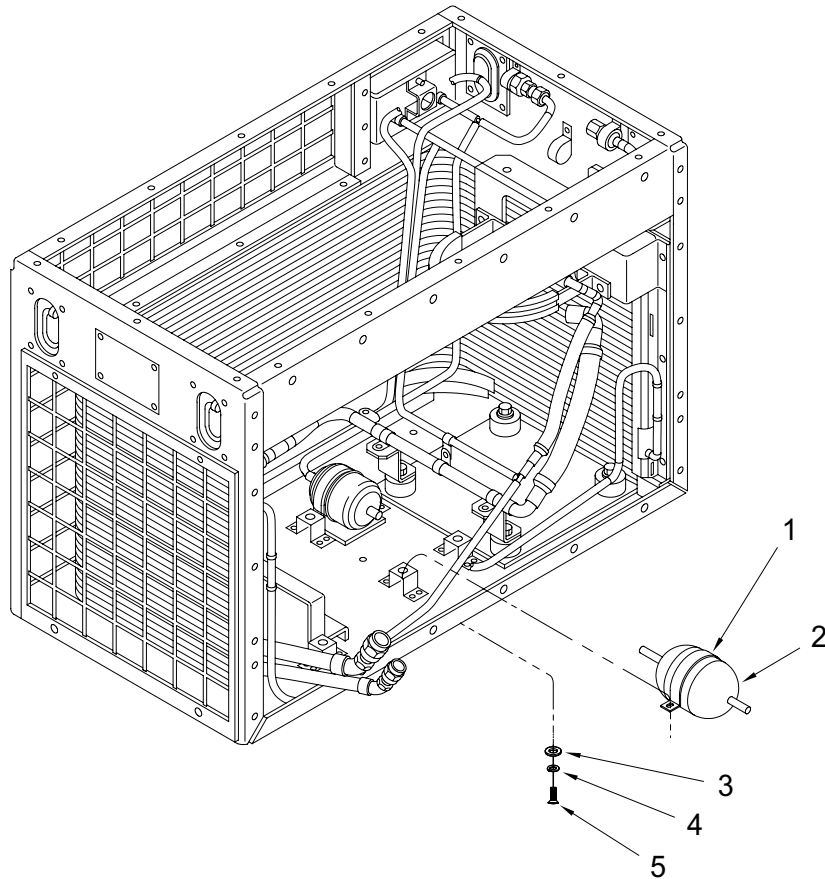

Figure 1. RECEIVER ASSEMBLY.
3. Remove screws (5), lockwashers and flat washers (3) from bottom of condenser securing clamp (1) and receiver (2) to housing. See Figure 1.
4. Remove receiver (2) from condenser housing. See Figure 1.
1. Position receiver (2) in condenser housing. See Figure 1.
3. Install clamp (1) to secure receiver to bottom condenser housing channel.